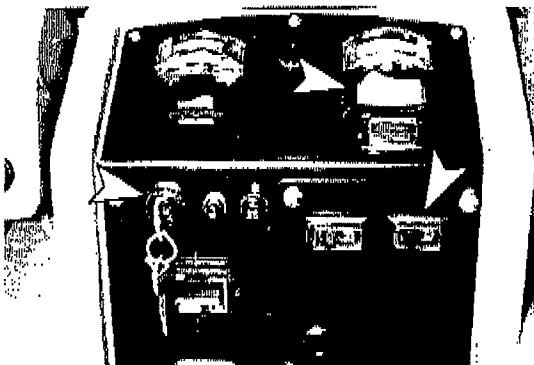

FIG. 26
4. Turn on key, wand pump and vacuum switches (Figure 26).